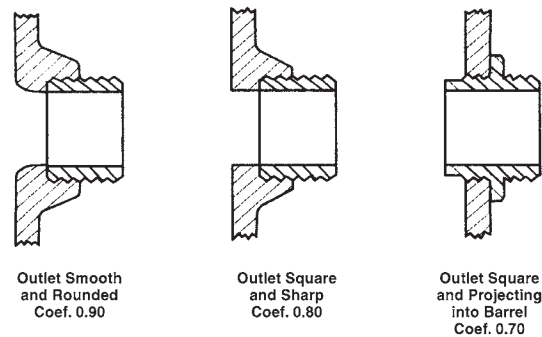

Figure 3 Three general types of hydrant outlet and their coefficients of discharge
8. Insert your hand into the back of the hydrant outlet to verify whether the outlet is smooth and rounded, square and sharp, or square and projecting into the barrel (see Figure 3). Record the outlet size and type and include that information with the rest of the data from the flow test.
- c = Coefficient of discharge (see Figure 3)